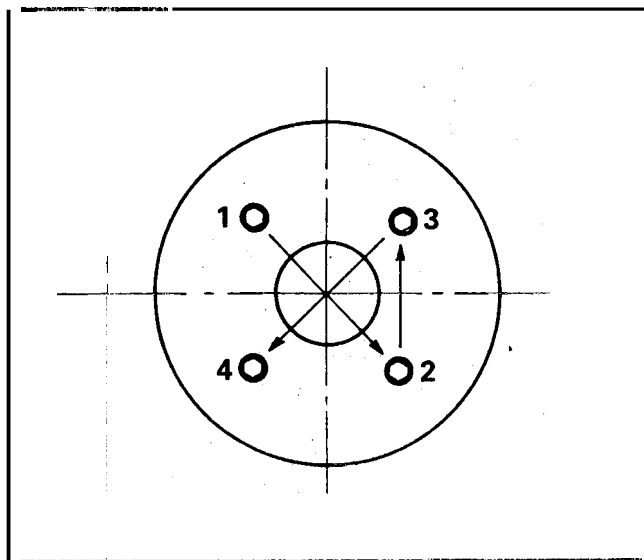

Figure 110
19. Tighten the bolts in a diagonal sequence as shown in Figure 110.